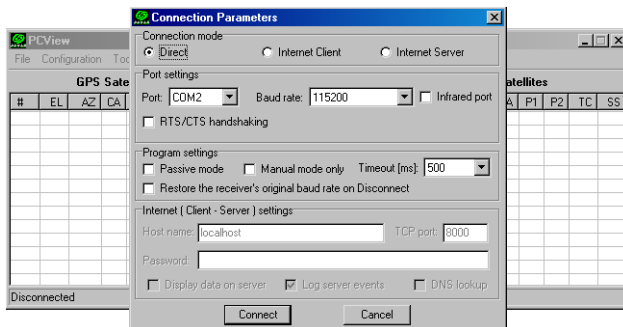

Figure 2-9. PCView Main Window
- Once the receiver and a computer are connected, start PCView on your computer. The PCView main screen displays (Figure 2-9).